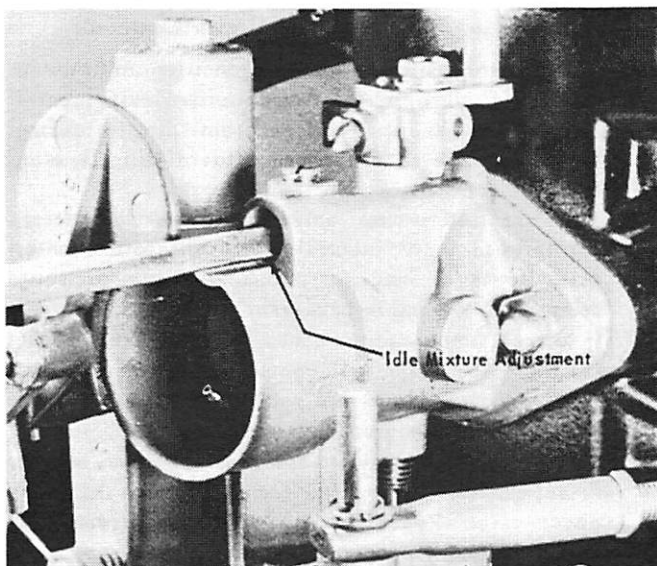

Figure 9. Carburetor Idle Adjustment
5. Slowly turn needle clockwise until cylinders fire evenly and engine picks up speed. (Figure 9)